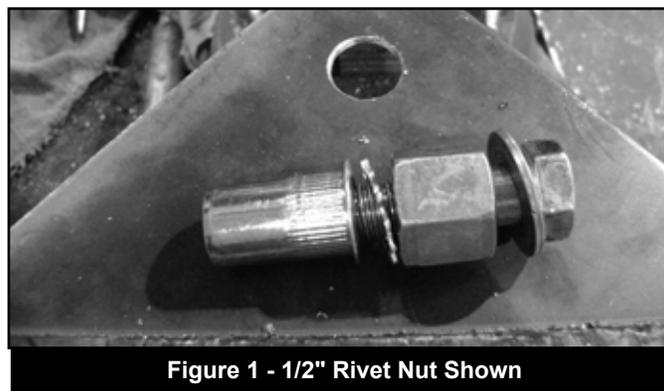

Figure 1 - 1/2" Rivet Nut Shown
3. For a 3/8" rivet nut, place the provided 3/8" SAE flat washer on the 3/8" x 1-1/2" bolt, followed by 7/16" hex nut and then a 3/8" serrated washer. **Figure 1** Thread this tool assembly into the rivet nut.
4. For a 1/2" rivet nut, place the provided 1/2" SAE washer on a 1/2" x 2" bolt followed by a 9/16" high nut and 1/2" serrated edge lock washer. Thread this tool assembly into the rivet nut as shown. **Figure 1**